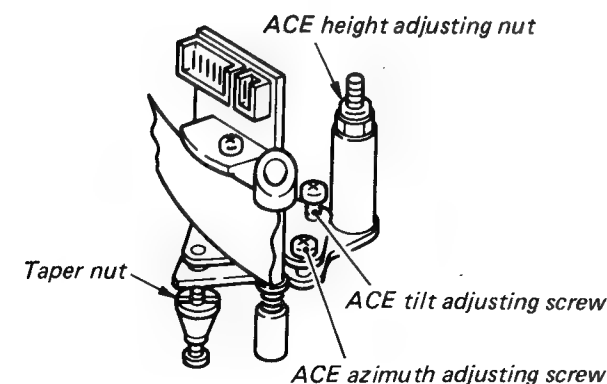

Fig. 1-4-6 ACE head assembly
- a.1) If tape wrinkle is observed at the lower flange of No. 8 guide, adjust the ACE tilt adjusting screw counterclockwise as shown in Fig. 1-4-6 until the wrinkle disappears.
- b.2) Adjust the ACE azimuth adjusting screw for maximum audio output as shown in Fig. 1-4-6.